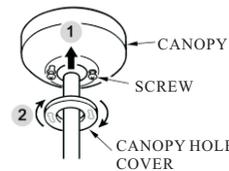

FIG. 11
5. Place the canopy hole cover over the 2 screws and twist the cover to tighten. (see Fig.11)